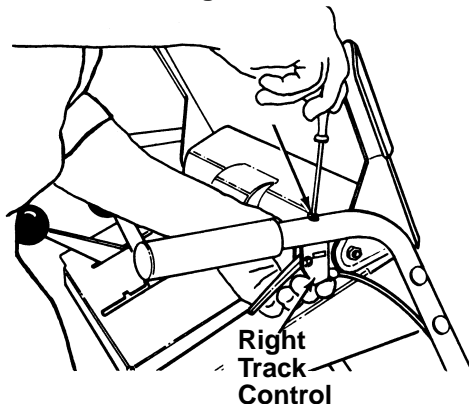

Figure 11
2. Place the right track control in position underneath the right handle. Secure with screw just removed. See figure 11.